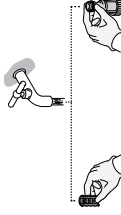

Fig. 41
3. Rinse the parts with clear water (Fig. 41).